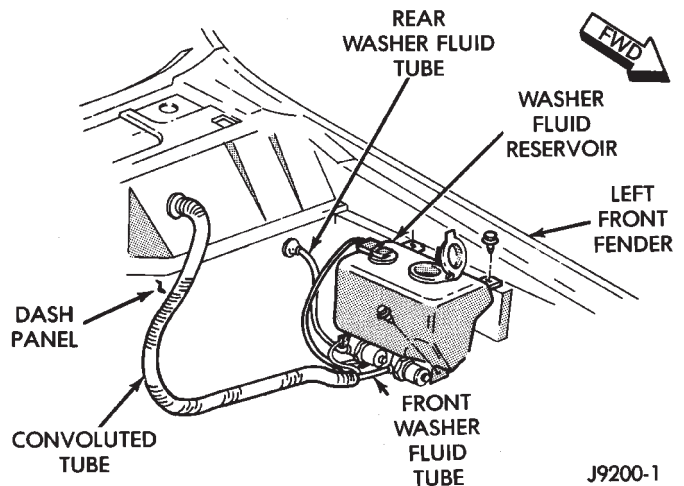

Fig. 13 Washer Fluid Tubing—Typical
(2) Inspect surface of hoses and tubing (Fig. 13) for heat and mechanical damage. **The hose and tubing that is located near an exhaust manifold should be given special attention.**